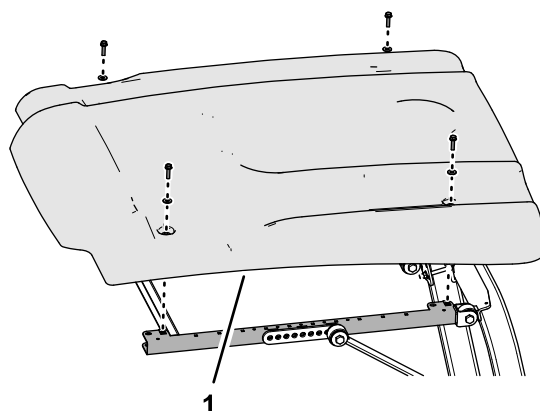
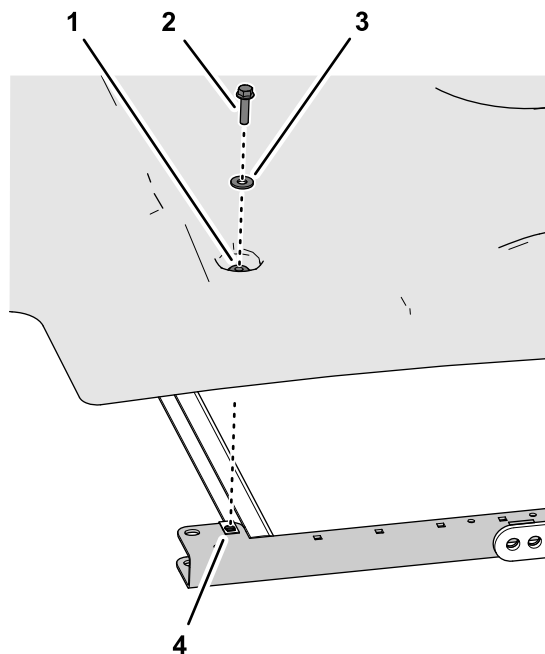

Figure 1
Figure 2
1. Remove the 4 flange-head bolts (5/16 x 1-1/4 inches) and 4 washers (5/16 inch) that secure the sunshade to the side-frame channels (Figure 1 and Figure 2).
2. Remove the sunshade from the machine (Figure 1).